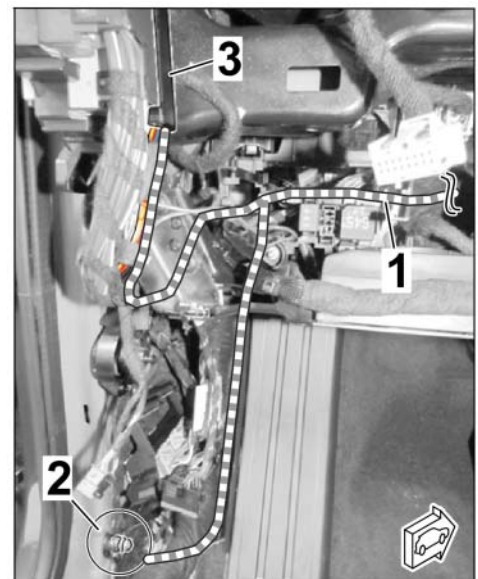

Figure 25
- 2.4.7 Route branch for power supply/ground (line BN; 1.0² with cable ring eyelet and line RD/YE; 1.0²) from wire harness for engine noise control unit/pulse sender) to the passenger compartment as follows (⇒ *Figure 25*):